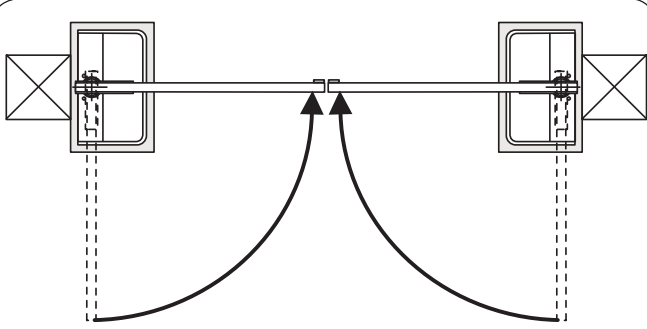

Fig.18
- 9) Close the gate (Fig. 18).